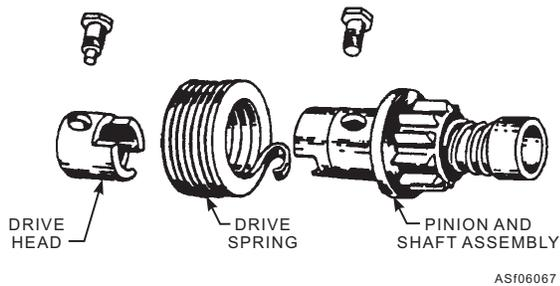

Figure 6-67.—Bendix drive construction.
**BENDIX DRIVE.**—This type of drive consists of a pinion and sleeve (shaft) assembly, a drive spring, and a drivehead (fig. 6-67). The pinion is counter weighted on one side and has internal spiral threads. The pinion is mounted on a sleeve and has external threads that match those of the pinion. The sleeve is a loose fit on the motor armature shaft. One end of the sleeve is bolted to the drive spring and the other end of the drive spring is bolted to the drivehead. The drivehead is keyed and bolted to the armature shaft by the shank of the same bolt that holds the drive spring to the drivehead.